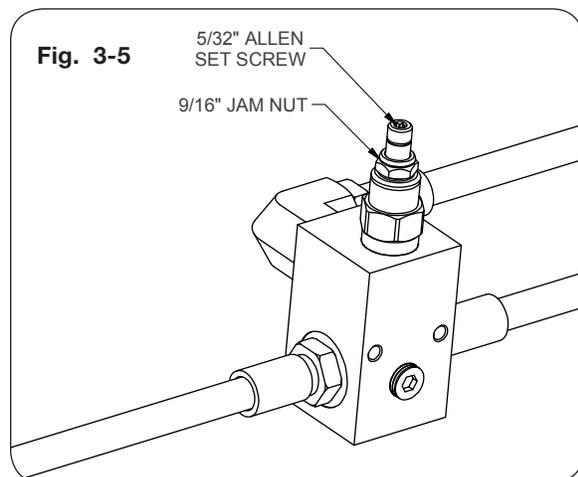

Fig. 3-5
- Adjust track pressure by turning relief valve on tensioner hose kit. First, loosen the 9/16" jam nut. Then, use a 5/32" hex driver to adjust the set screw. Adjust slowly while watching the pressure gauge. (Fig. 3-5)
**NOTE:** Turn 5/32" set screw clockwise to increase pressure. Counter-clockwise to decrease pressure. (Fig. 3-5)
- Once proper track pressure is achieved, lock the set screw by tightening the 9/16" jam nut and then close 90 degree shut-off valve. (Fig. 3-5)